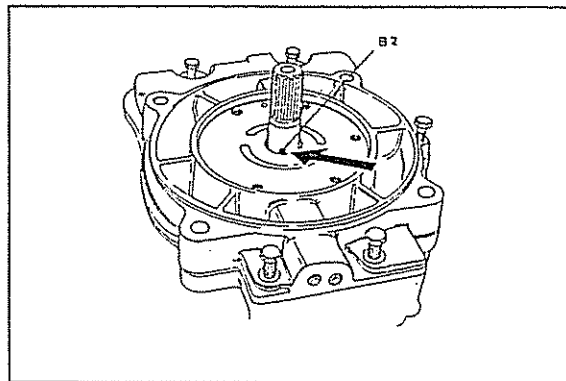

FIGURE B3
2.1. Use a pocket magnet to remove the pump drive ball (T3-2 #6) from input shaft. See Figure B3.